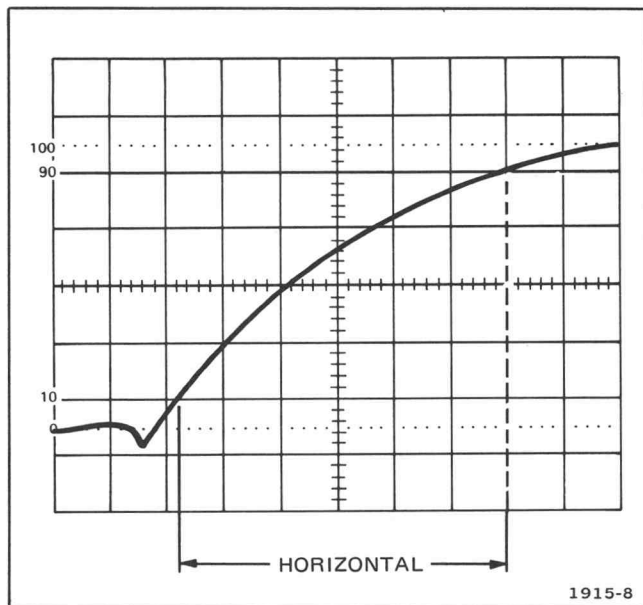

Fig. 4. Measuring risetime.
4. Center the display about the center horizontal graticule line. See Fig. 4.
6. Adjust the horizontal POSITION control to move the 10% point of the waveform to the first graticule line. See Fig. 4.
**Example.** Assume that the horizontal distance between the 10% and 90% points is four divisions (see Fig. 4) and the TIME/DIV switch is set to  $1 \mu\text{s}$ .